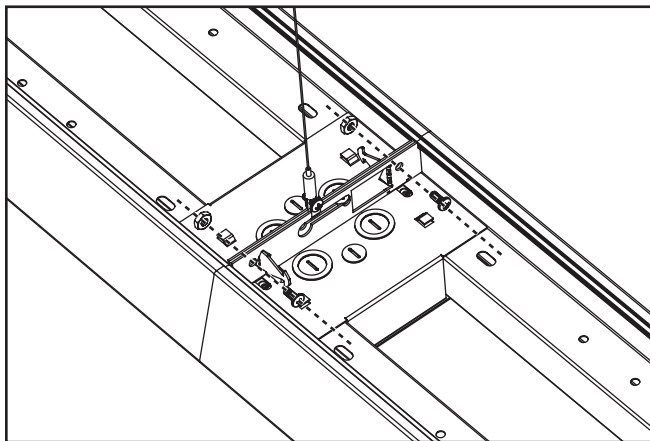

Figure 8.
- Secure fixtures using two 10-32 x 3/8" screws and nuts. Tighten ¼ turn past hand-tight. (Figure 8.)